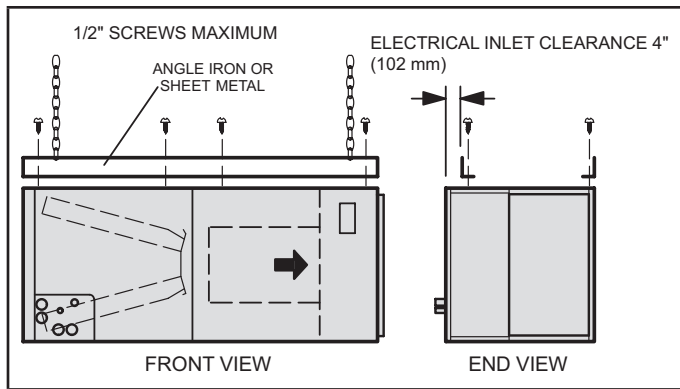

FIGURE 10. Suspending Horizontal Unit
- If the unit is suspended, the entire length of the cabinet must be supported. If you use a chain or strap, use a piece of angle iron or sheet metal attached to the unit (either above or below) to support the length of the cabinet. Use securing screws no longer than 1/2" to avoid damaging the coil or filter as illustrated in figure 10. Use sheet metal screws to connect the return and supply air plenums as required.
- 12 - If suspending the unit, it must be supported along the entire length of the cabinet. If using chain or strap, use a piece of angle iron or sheet metal attached to the unit (either above or below) so that the full length of the cabinet is supported. Use securing screws no longer than 1/2" to avoid damage to coil or filter, as illustrated in figure 10. Connect return and supply air plenums as required using sheet metal screws.